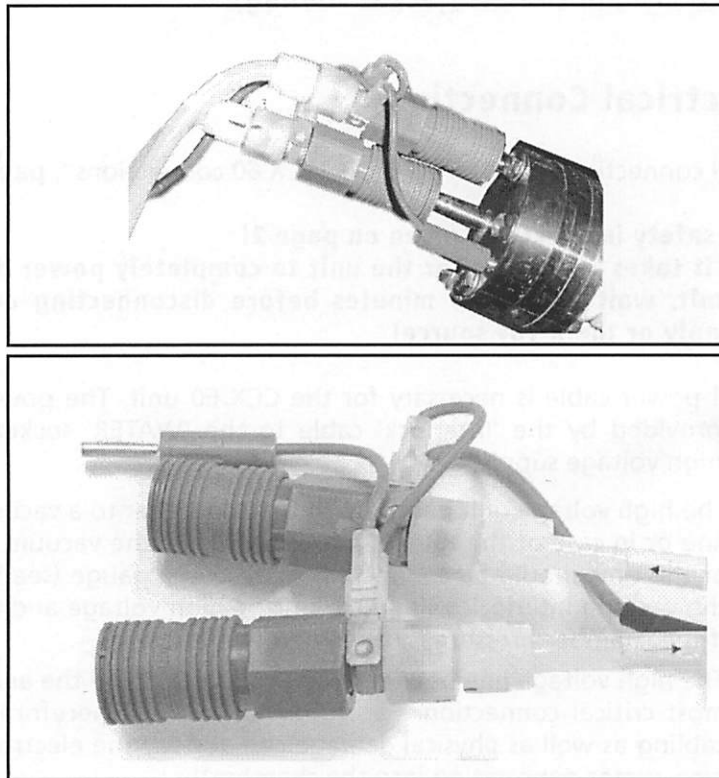

Figure 11 **HV electrodes**
1. The high voltage unit has to be connected either to a vacuum controlled power line or in case of the XRC1000 supply at least the vacuum interlock at the rear of the unit should be connected to a vacuum gauge (see item 3 below). Using the vacuum interlock will switch off the high voltage and the filament current, if the chamber pressure is over the set limit.
- The connection of the HV cable (anode) to the HV plug is fixed with screw. Check also the electrical contacts of the HV electrodes (figure 11, page 20) between the hoses and the quick-fit connectors and look at the wires, hoses and inner insulation (PTFE foil) of the protection cover for sparking traces. Keep in mind that the X-ray anode, the HV electrodes as well as the water inside the PTFE hoses are at HV during operation.